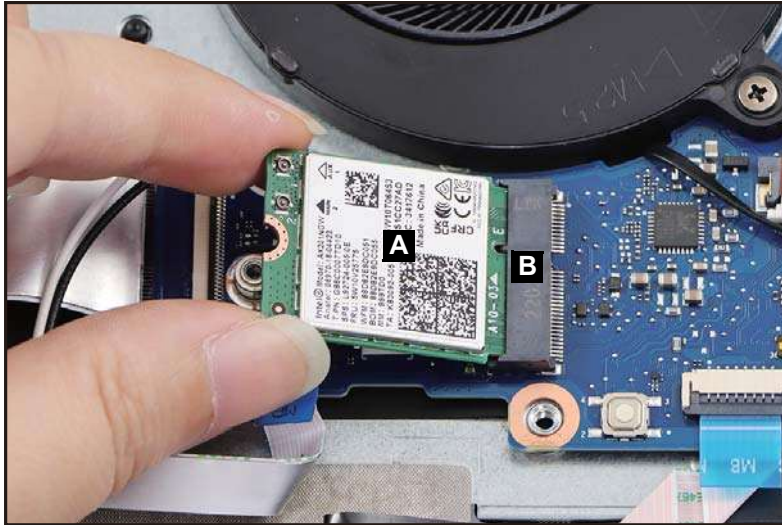

Figure 3-116. Replacing the WLAN Module
1. Connect the WLAN module (A) into the mainboard connector (B) (Figure 3-116).